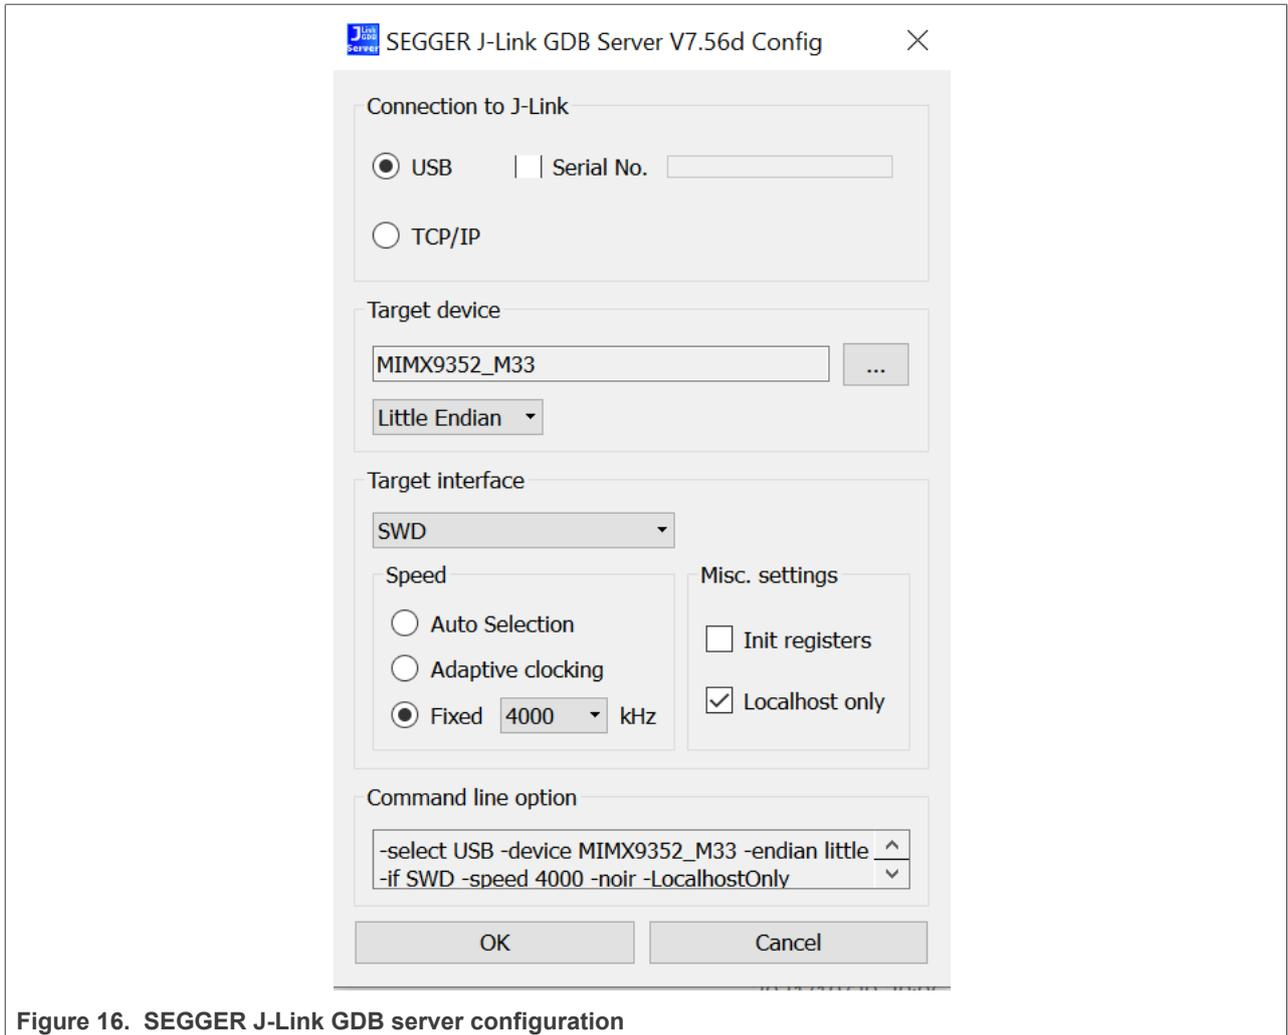

Figure 16. SEGGER J-Link GDB server configuration
7. Modify the settings as shown in Figure 16. The target device selection chosen for this example is MIMX9352_M33 .